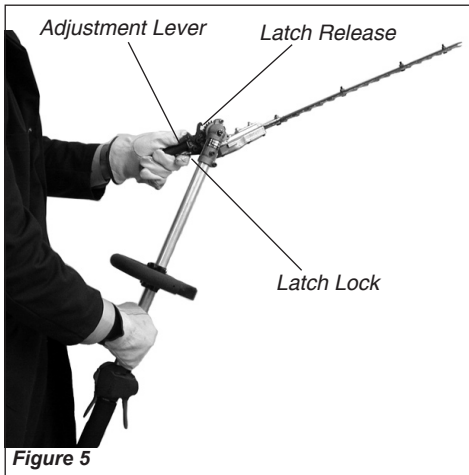

Figure 5
1. With your right hand, grasp the outer tube near the handle. With your left hand, grip the adjustment lever on the cutter assembly. See Figure 5.